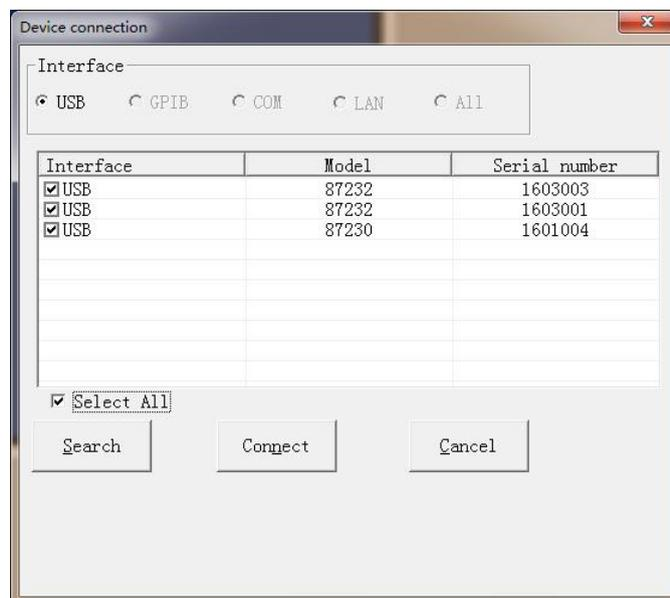

Fig. 3.5 Equipment when several USB CW power sensors are connected
Step 1. Open the virtual power test panel, and the system will automatically find the connected USB CW power sensors, and then select all connected power sensors, and click “Connection” button. As shown in Fig. 3.5, the system will automatically display the USB CW power sensor found first and display the measurement results;